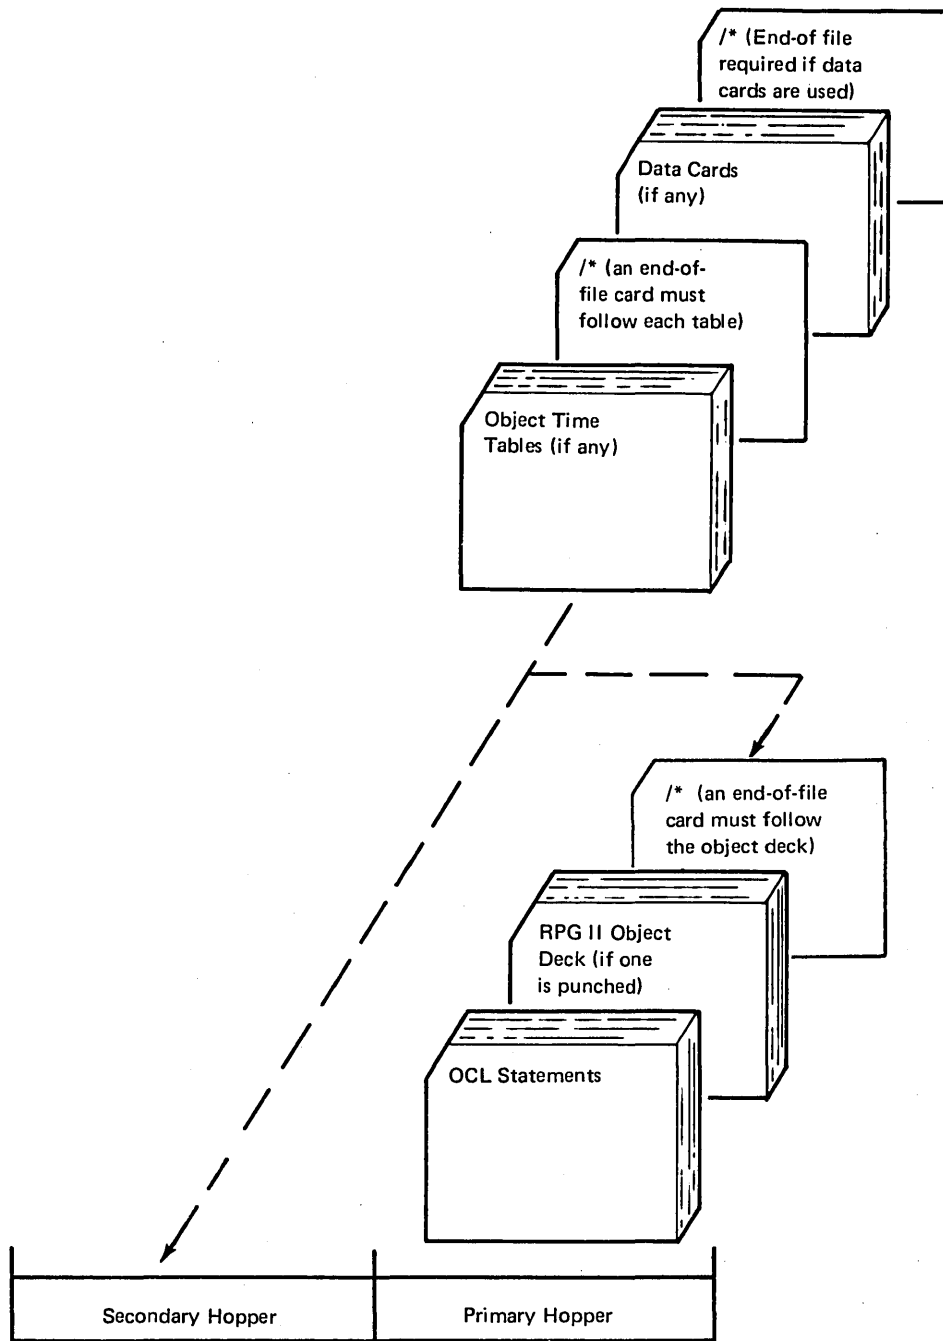

Figure 25. Input for RPG II Object Program Execution
4. If required, place object tables and data cards (Figure 25) in the hopper designated on program run sheet.